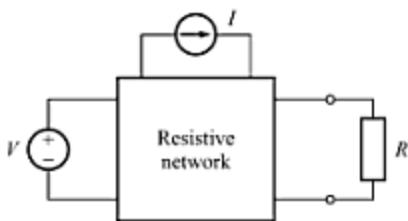

Fig. A-83
- A-42. A dc circuit shown in Fig. A-83 has a voltage source  $V$ , a current source  $I$  and many resistors. In an experiment, it was found that a particular resistor  $R$  dissipates 4 W when the voltage source  $V$  alone is active, and it dissipates 9 W when the current source  $I$  alone is active. Determine the power dissipated by  $R$  when both sources are active.